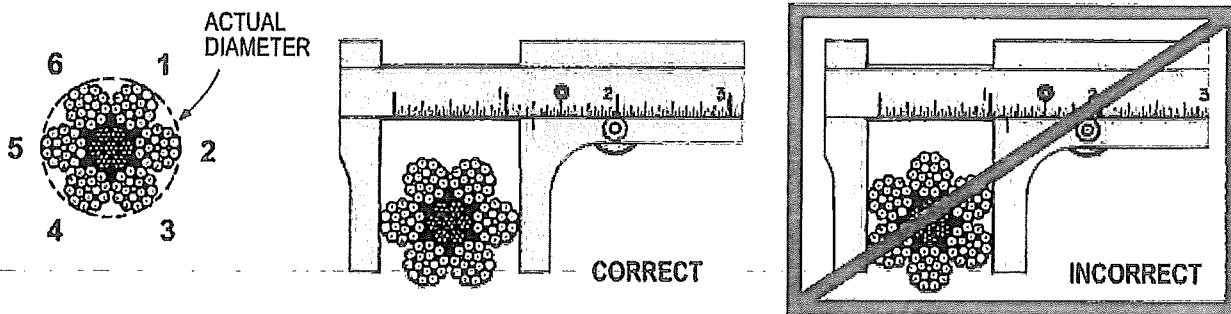

Figure 14 The correct way to measure a rope's diameter is across the widest point, from crown to crown of opposite strands, not from valley to valley.
2. Identify the rope. Before you can know what to look for in your inspection, you have to know something about the rope. Begin by identifying its diameter and construction. Note that all measurements of a rope's diameter must be performed at the widest point, as shown in Figure 14.
same location. On a six-strand rope, for example, you'll measure all three diameters, i.e. the distance between the outsides of strands 1 and 4, 2 and 5, and 3 and 6, as shown in Figure 14. On an eight-strand rope you may want to measure all four diameters.